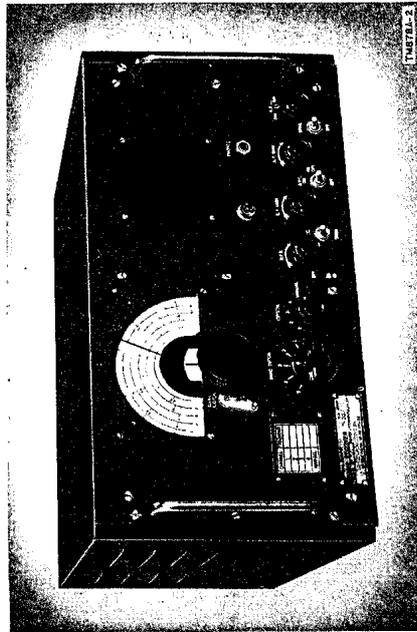

Figure 2. Radio Receiver R-96A/SR, from view.
a. Radio Receiver R-96A/SR is an 11-tube superheterodyne receiver designed to receive a-m and c-w signals in the frequency ranges of 135 to 510 kc and 1 to 12 mc to cover the operating frequencies of the standard marine bands, as well as many land-based and airborne transmitters. This is necessary to facilitate complete shipboard reception for all types of military operations. Four crystal-controlled channels also are provided in the 1,700 to 8,700 kc frequency range. A speaker is contained within the set and a phone jack is provided on the front panel for headset operation. An aml (automatic noise limiter) circuit assists in reception during pulse type noise interference. All operating controls are located on the front panel (fig. 2). The receiver is provided with a cabinet suitable for desk or shelf mounting. The cabinet is designed to support the weight of Radio Transmitter T-83/SR when it is used in conjunction with the receiver. If required for installation, the receiver may be removed from the cabinet and
b. The receiver can be removed from the dust cover by removing six screw-head bolts. The bolts are located at the ends of the front panel in line with the two handles (fig. 2). After the bolts are unscrewed, grasp the handles and pull the chassis outward from the dust cover.
17. Front Panel Controls (figs. 2 and 9)